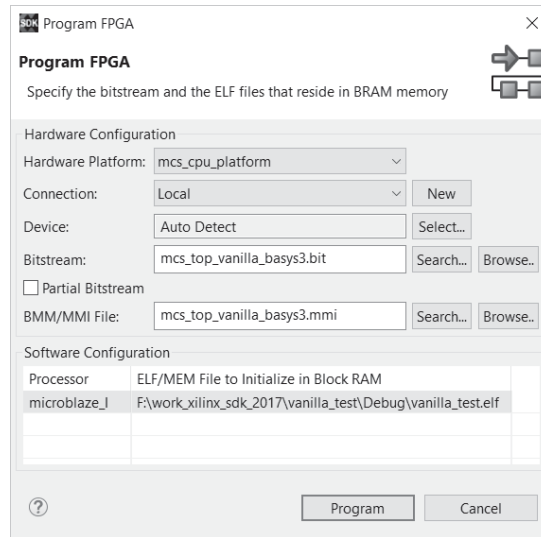

Figure A.20 Program FPGA dialog
1. In Xilinx SDK, select the Xilinx Tools > Program FPGA menu and a dialog appears, as shown in Figure A.20. Verify that the desired hardware platform, bit stream file, and mmi file are correct.